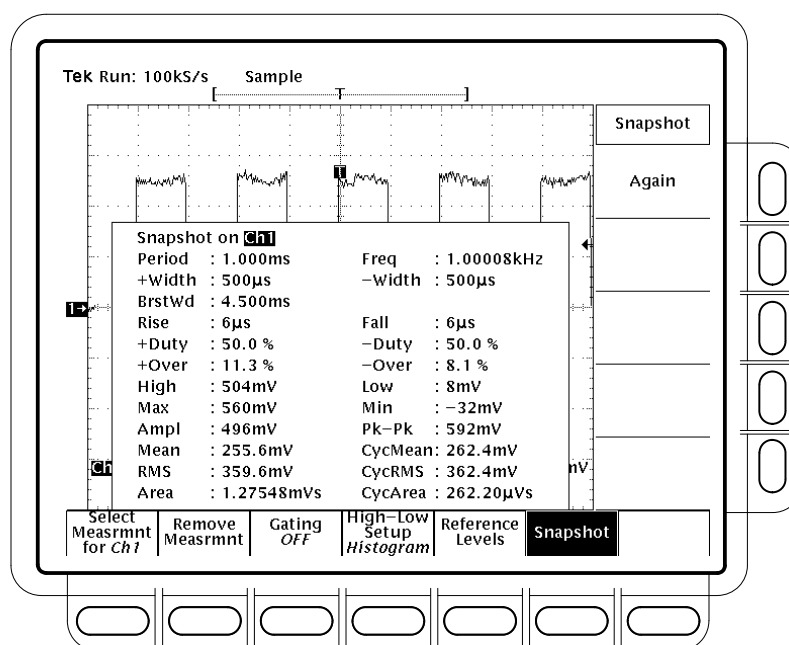

Figure 2–17: Snapshot of Channel 1
1. Press **Snapshot** (main) to pop up a snapshot of all available single waveform measurements. (See Figure 2–17.)
6. Press **SAVE/RECALL SETUP** → **Save Current Setup** (main) to display the Setup main menu. (See Figure 2–18.)